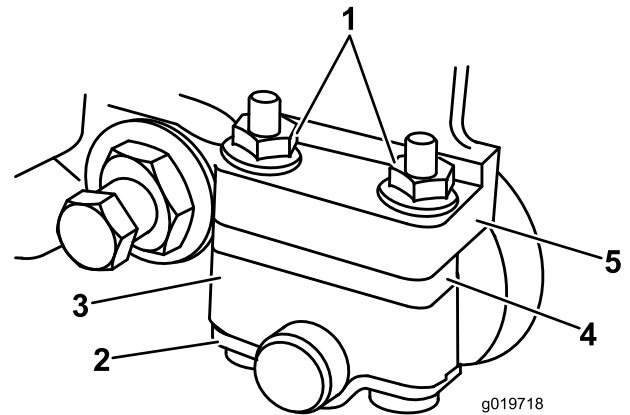

Figure 2
2. Remove the 2 nuts securing each roller clamp, bracket, and spacer to each sideplate mounting flange (Figure 2). Remove all components but retain the shims.